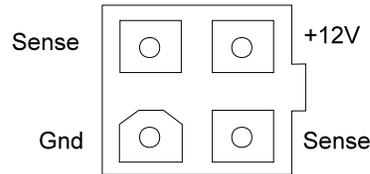

Figure 10. Power Supply Connector J2
7. On the power supply connector J2 (see Figure 10), check that the +12V signal falls between a minimum of +11.5 volts and a maximum of +12.6 volts.